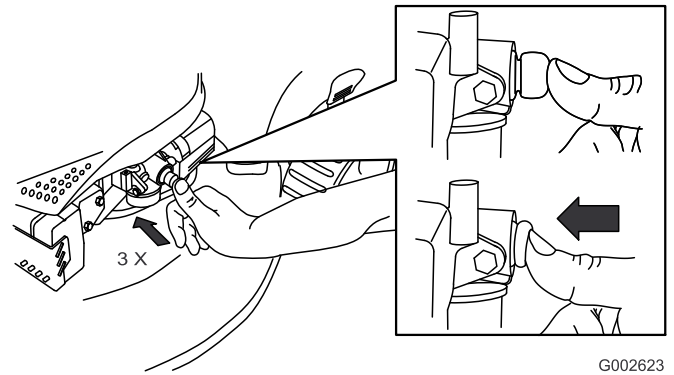

Figure 21
2. Firmly push in the primer 3 times with your thumb, holding the primer in for a second before releasing it each time (Figure 21).